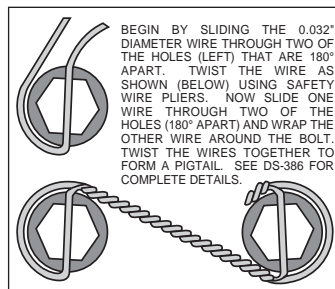

Figure 4. Safety Wire Diagram
- Orient the rotor (9) and the hat (10) as shown in Figure 2 and Photo 4. Attach rotor to hat using bolts (12) and washers (11). Using an alternating sequence, apply red *Loctite*® 271 to the threads, and torque to 155 in-lbs. Safety wire bolts using standard 0.032 inch diameter stainless steel safety wire as shown in Figure 4. Refer to Wilwood's data sheet DS-386 (available at www.wilwood.com/Pdf/DataSheets/ds386.pdf) for complete safety wire installation instructions.